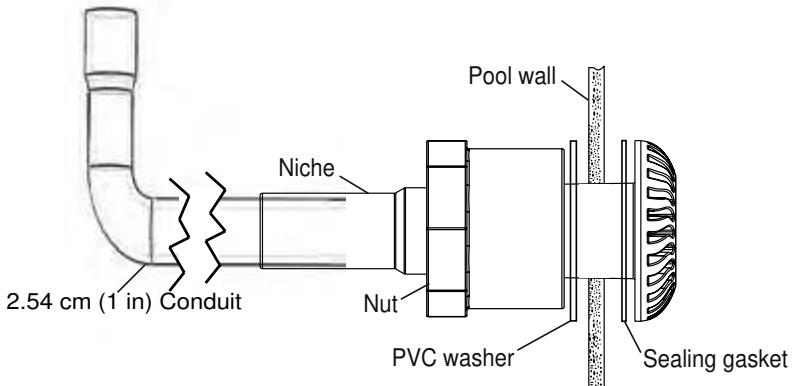

**Figure 2: Gunite Light Installation Diagram**
- The Junction Box and the low voltage transformer is located at least 4 (four) inches (10.16 cm) above ground level or eight (8) inches (20.3 cm) above maximum water level, whichever is higher. The Junction Box must be at least 48 inches (1.22 m) from the edge of the pool. See Figure 2 on page 8.
- The GloBrite light niche must be properly installed so that the top edge of the lens of the GloBrite light is at least 4 inches below (not more than 48 inches below in Canada) the surface of the water in the pool or spa. See Figure 2 on page 8.
- The niche must be properly installed so the center line of the Underwater Light's lens is at a maximum depth of 600 mm below the surface of the water in the pool, see Figure 2 on page 8.
- Install Sleeve:** Locate position on vertical pool or spa wall where light is to be installed. The top of the light lens must be a minimum of 10.2 cm (4 in) inches below normal water level. Refer to Figure 2 on page 8 for the exact depth requirements.
1. **Install Sleeve:** Locate position on vertical pool or spa wall where light is to be installed. The top of the light lens must be a minimum of 10.2 cm (4 in) inches below normal water level. Refer to Figure 2 on page 8 for the exact depth requirements.
6. Install the conduit. See Figure 2 on page 8.
2. At the 12 VAC transformer or junction box, cut off any extra cord. Leave at least 15.2 cm (6 in) of cord in the Junction Box or transformer to facilitate the light installation, niche inspection. Cut off any extra cord. See Figure 2 on page 8. For junction box installation for Canada, see Figure 1 on page 5.
3. Strip back the outer cord jacket of the wires to expose the two (2) insulated conductors. Strip back the two conductors. Be careful not to damage the copper conductor.
4. Connect the two (2) conductors to the corresponding circuit wires in the Junction Box (black wire to power, white wire to common). Secure the Junction Box cover.